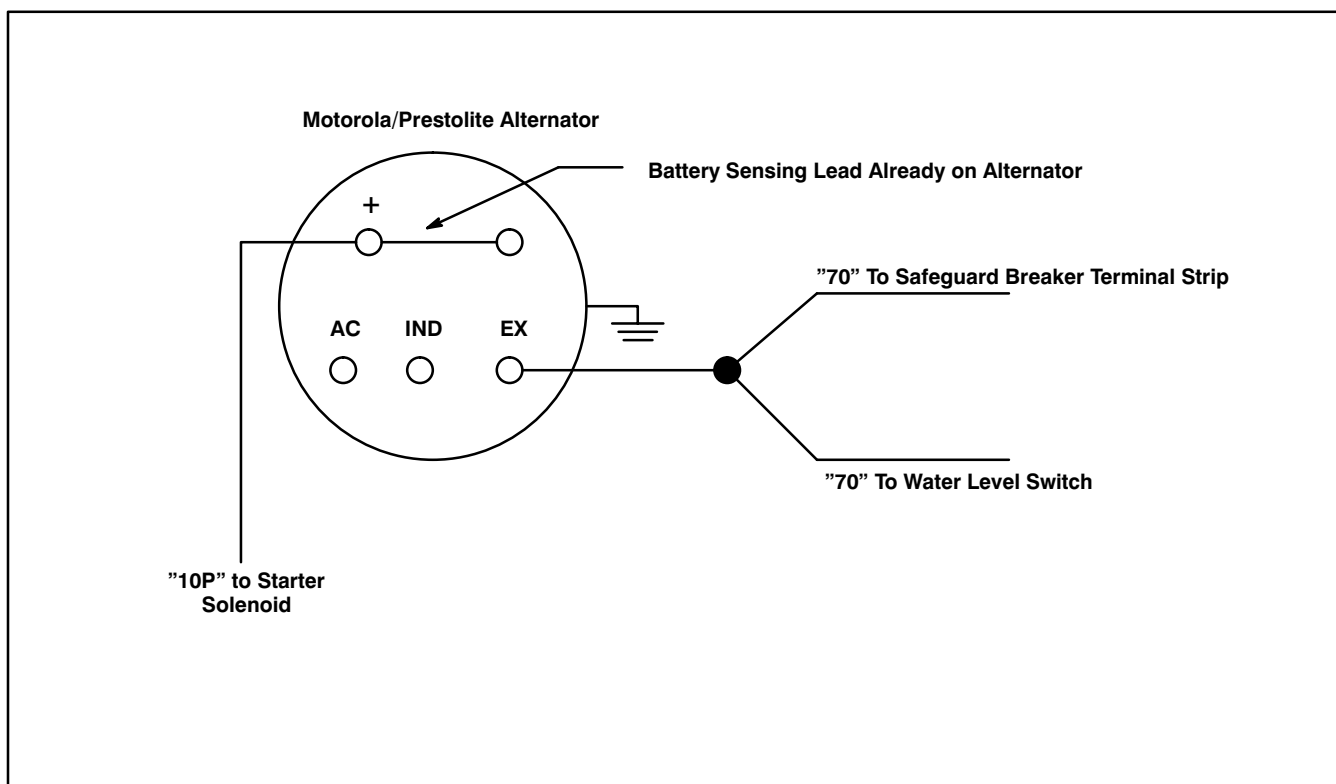

Figure 2. Wiring Harness Connections for Motorola/Prestolite Battery-Charging Alternator
3. Connect both "70" wires to a single 14 gauge eyelet terminal (X-282-3). Connect "70" eyelet terminal to alternator "EX" terminal as shown in Figure 2. Connect wiring harness "10P" lead to alternator "+" terminal.
5. Install engine wiring harness according to appropriate wiring diagram in generator service manual. (Refer to Figure 2 for connection of modified wiring harness to Motorola/Prestolite battery–charging alternator.)